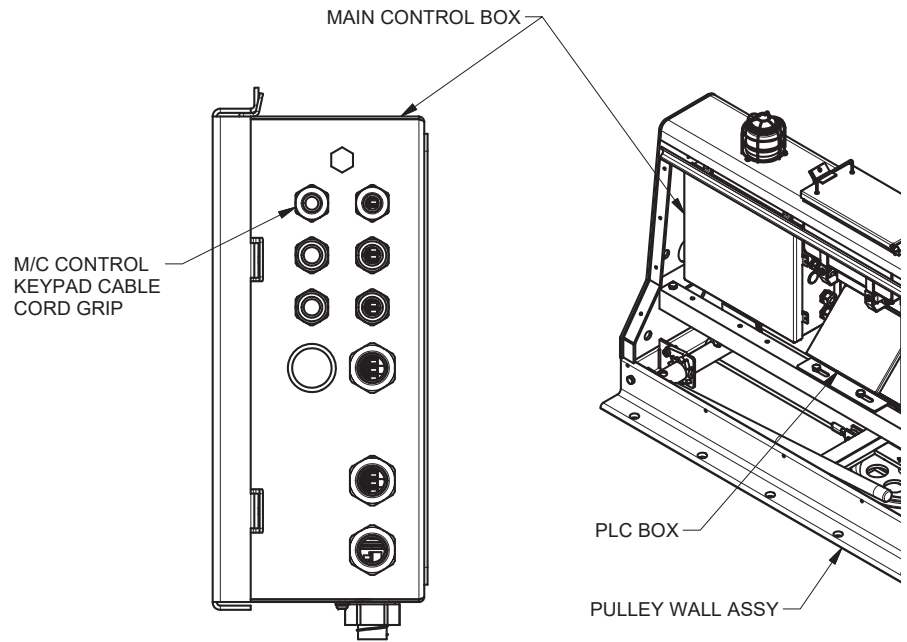

Figure 11
2. **Connect keypad cable to main control:** Loosen retaining clips, open the main control box, push keypad cable through cord grip (Figure 11) and land the keypad wires onto the terminal blocks as indicated in Figure 11. Push the cable through the cord grip and into the enclosure. If necessary, remove cable slack then cut the cables to the appropriate length and strip the jacket down to expose the lead wires. Make the lead wire connections then tighten the cord grip nut to secure the strain reliefs tightly against the cables.